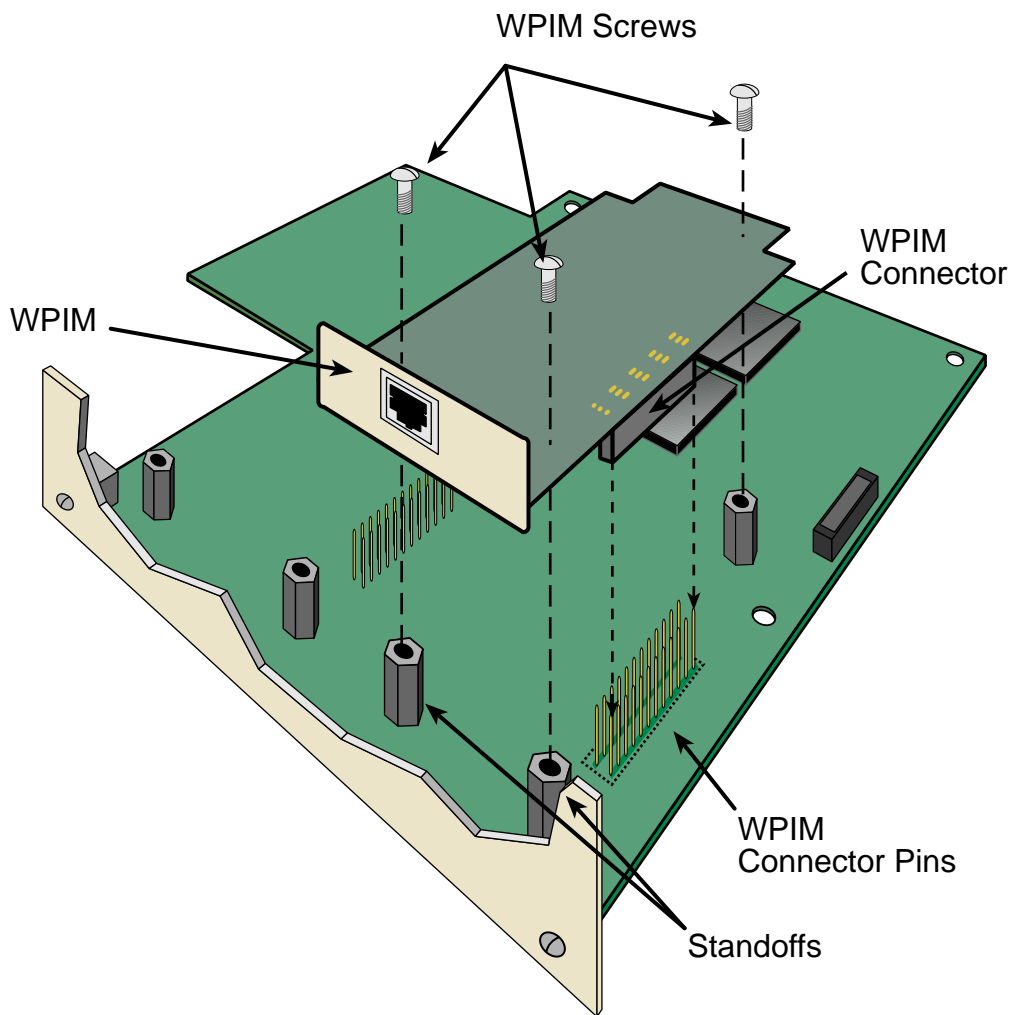

Figure 13 Installing WPIMs
To install a WPIM into the CSX400, refer to **Figure 13** and complete the following steps:
4. Orient the WPIM as shown in **Figure 13**.